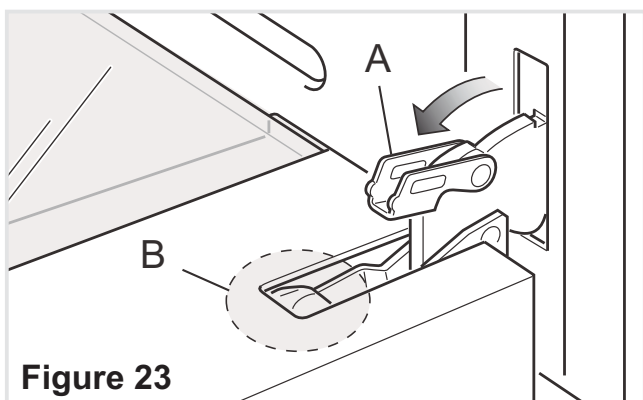

Figure 23
- Fully open the lever "A" on the left and right hinges (fig. 23).
- Gently close the door until left and right hinge levers "A" are hooked to part "B" of the door (figs. 23, 24).